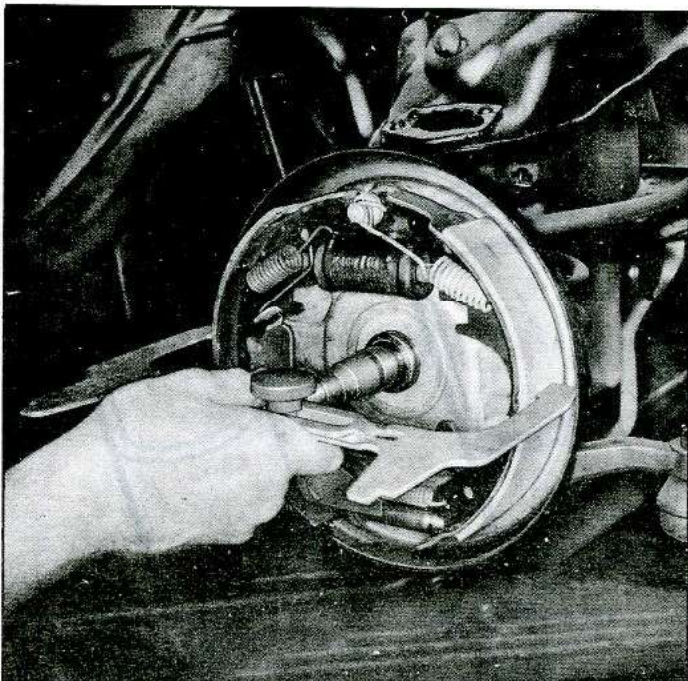

Fig. 14—Checking Brake Shoe Lining Clearance
- b. Turn the tool to the opposite side and fit over the brake shoes by turning the star wheel until the gauge just slides over the linings (fig. 14).